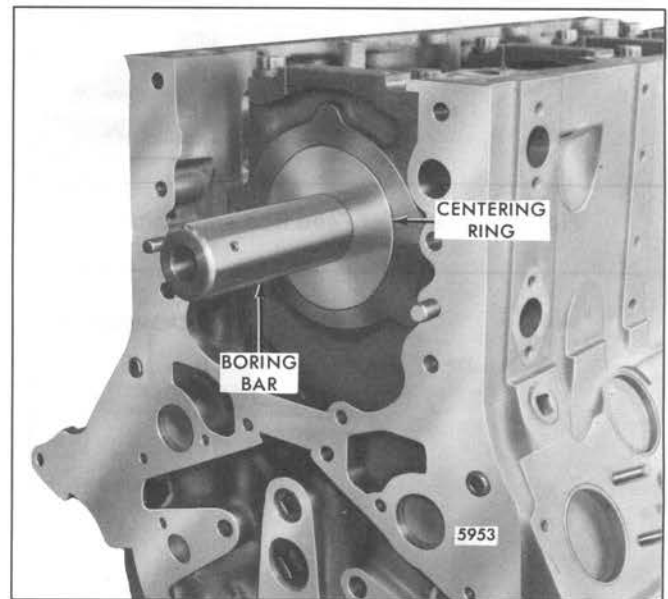

Fig. 1 – Location of Boring Bar
4. Slide the boring bar through the centering rings. Lubricate the ring hole with clean engine oil during installation. The bar should rotate freely (Fig. 1).